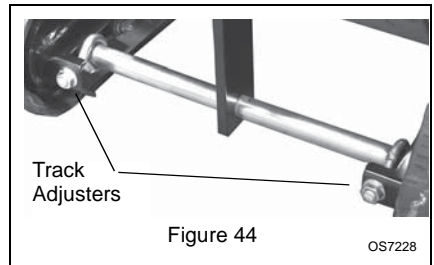

Figure 44
To adjust (Figure 44):
1. Make sure that height adjustment lock finger is fully engaged. See Figure 44.